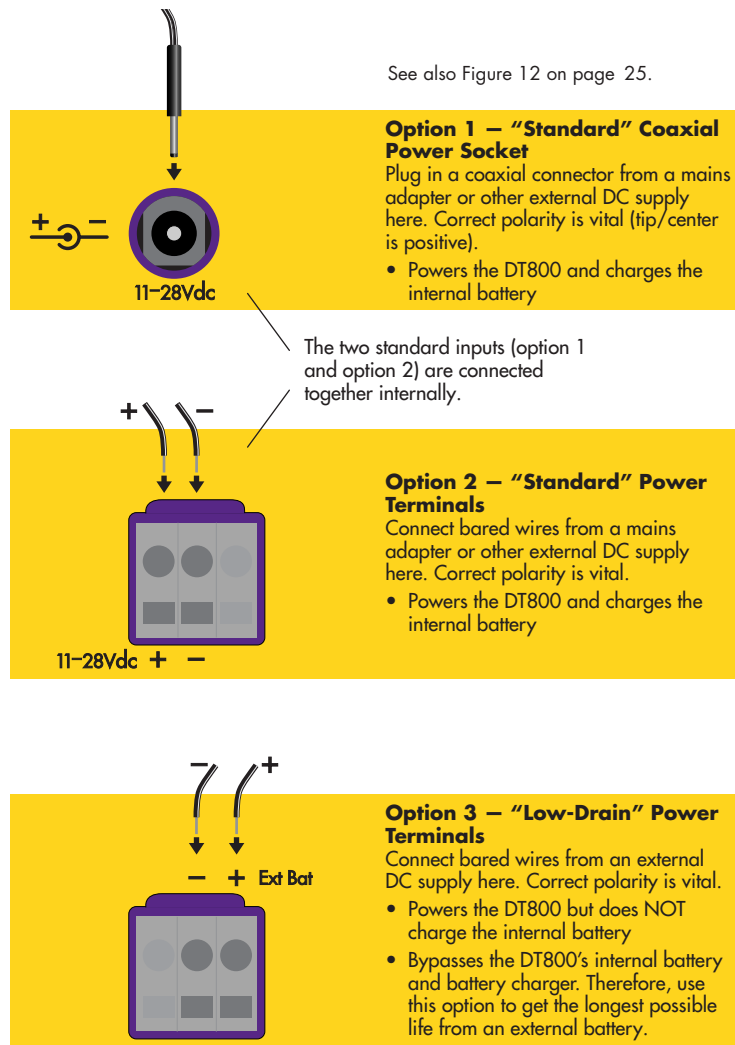

FIGURE 38 The DT800's external power inputs
The three options for powering a DT800 externally are shown in Figure 38. Your DT800 is supplied with a DC mains adapter, ready to be powered from a wall outlet.
In situations where the reliability of external power to the DT800 is crucial, we recommend that you use the removable external power terminal block (option 2 in Figure 38) instead of the coaxial socket. The cage-clamp terminals of the removable block are exceptionally reliable.
You can charge the DT800's internal main battery from a 12V solar panel connected to the *dataTaker's* standard power inputs (option 1 or option 2 in Figure 38). The *dataTaker* provides current and voltage limiting to protect both the panel and battery.
- When the DT800 is externally-powered. That is, when power is provided to either of the standard power inputs (options 1 and 2 in Figure 38 on page 41). You can override this — see “Controlling Sleep” next.